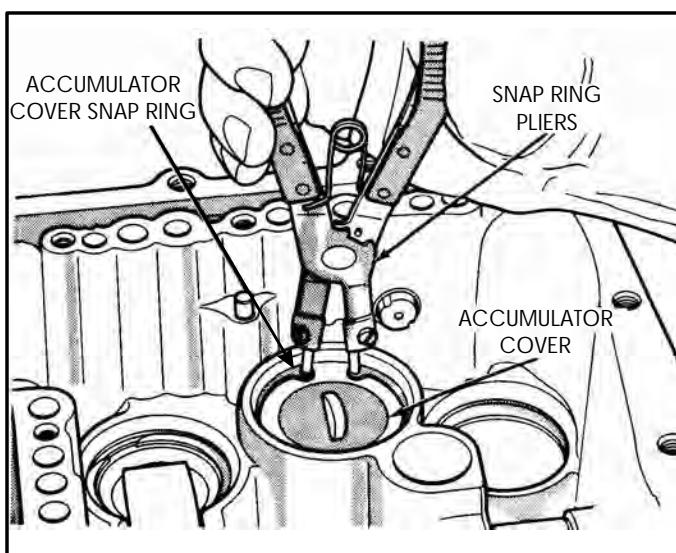

Figure 215
10. Install the accumulator cover, compress against spring and install snap ring using the snap ring pliers ahown in Figure 215.